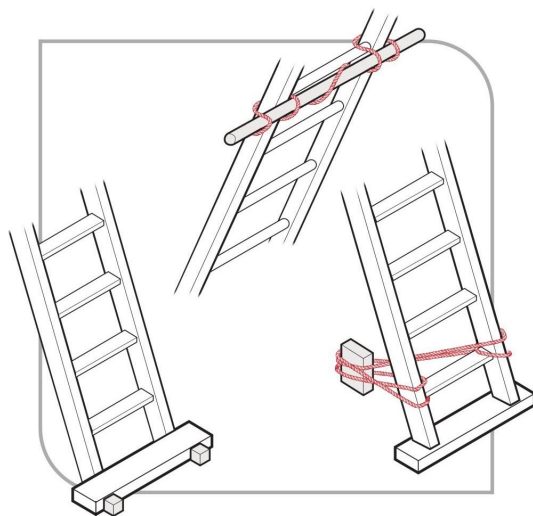

Figure 3 - Examples of effective securing of a ladder
- securing ladders at the top or bottom, or if necessary, at both ends (see Figure 3).